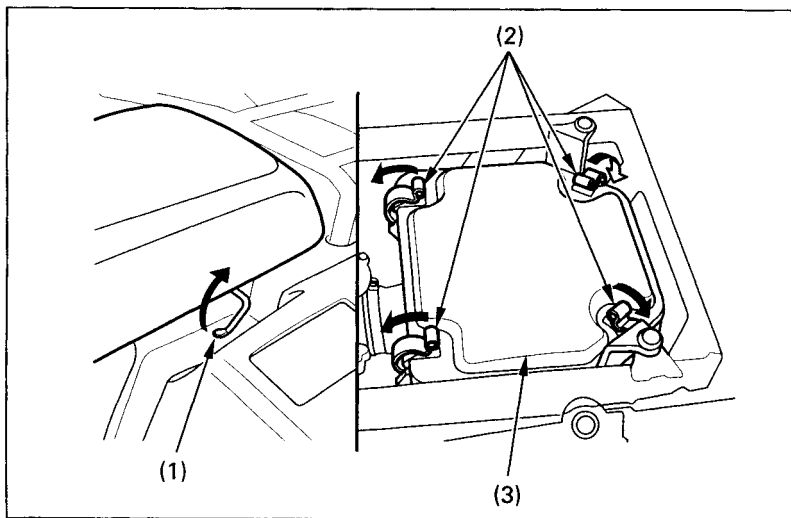

Fig. 4-4
1. Remove the seat by pulling up the seat lock lever (1) (Fig. 4-4).
2. Unlatch the four retainer clips (2) and remove the air cleaner housing cover (3).